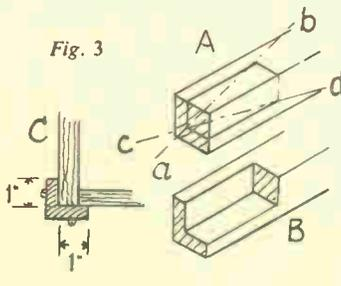

Fig. 3
To fit the legs to the tray, pencil out a portion at the top of each leg, 1 in. each way (or $\frac{3}{4}$ in. each way if the bought legs suggested are employed), the length being equal to the depth of tray, plus its bottom. This would be $4\frac{1}{2}$ ins. if wood of $\frac{1}{2}$ in. thickness is used for the bottom. When set out, as in detail (A) (Fig. 3.) saw along lines (a-b) and (c-d) and chisel out to the saw cuts. The remainder can then be removed with mallet and chisel, to finish as at (B). Fix the legs to the tray as in plan detail (C) with round-headed screws, using glue as well to strengthen the joints.
Fig. 3, leaving in a cramp until set. If considered necessary, you may insert three screws from one side, but for comfort when playing, the holes must be countersunk.